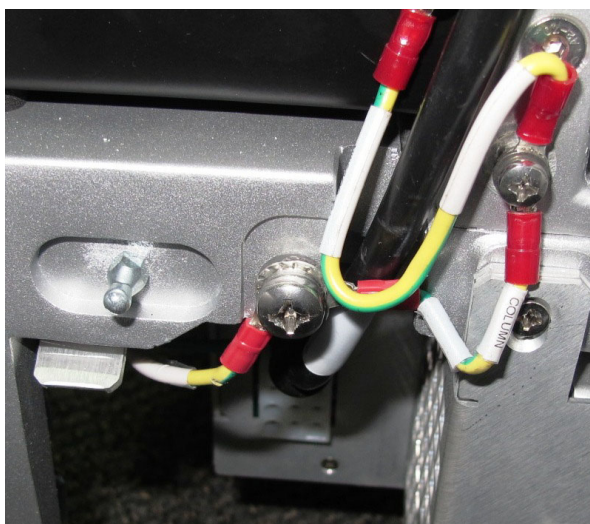

Figure 8-131 Printer-to-AC Box Cable Positioned Behind the Ground Cables
- 3.) Return the Ground screw cable holder to its position at the rear of the system making sure that the printer cable is **behind** the Ground cables, as shown in Figure 8-131.